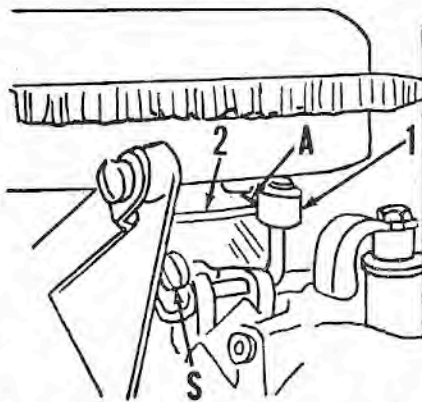

Fig. WB52—Schematic view of throttle linkage showing adjustments. Refer to text.
To synchronize the linkage, refer to Fig. WB52. With the engine not running, loosen the clamping screw (S) on throttle control bellcrank.